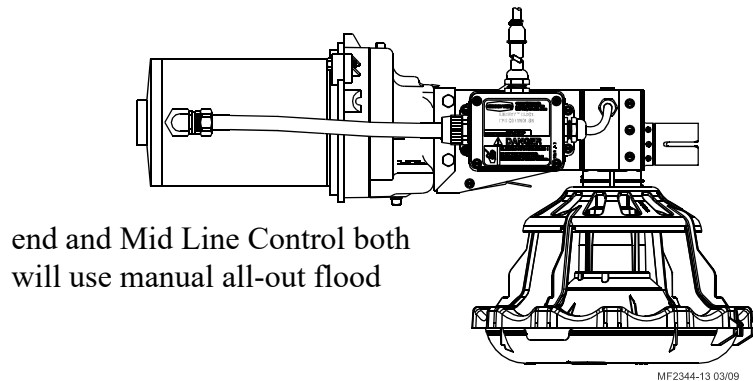

**Figure 32. Assembling Feeders on the Tubes**
14. Finally, tighten the Tube Clamps on the feeder tubes. Clamp the joints securely, but do not crush the tubes. Re-adjust all Adjustment Levelers as needed and trim off excess cable as shown in **Figure 32**.
1. Assemble the End Control Unit to the Feeder Line Control Tube using a clamp/anti-roost bracket. See **Figure 32**. **DO NOT INSTALL THE POWER UNIT AT THIS TIME.**